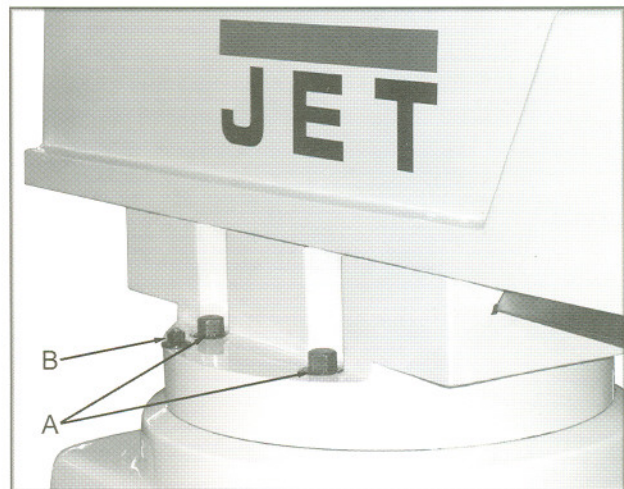

Fig. 11
1. Loosen four bolts, (A, Fig. 11) with a 21mm wrench.
2. Remove the pin (B, Fig. 11) by tightening the nut.